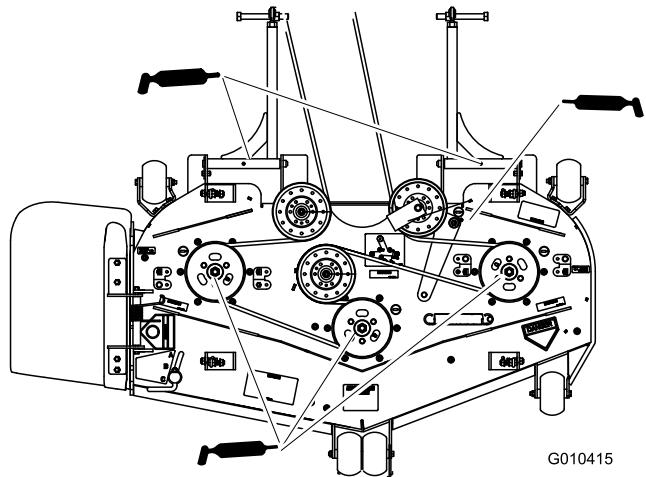

Figure 32
4. Grease the fittings on the 3 spindle bearings (Figure 32).
5. Grease the idler arm on the mower deck (Figure 32).
6. Grease the fittings on the push arms (Figure 32).